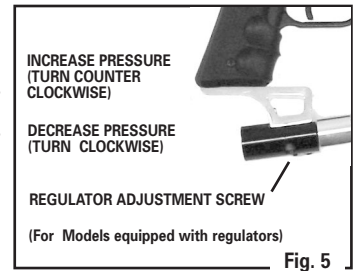

Fig. 5
- To increase pressure into your marker, turn the REGULATOR ADJUSTMENT SCREW counterclockwise using a hex wrench. (Fig. 5)